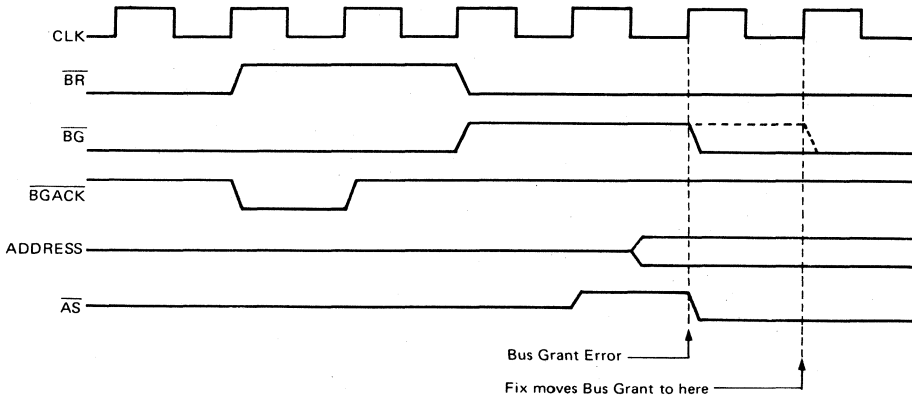

Figure 58 Bus Arbitration Timing Diagram Error Sequence
(1) Bus Arbitration Logic
The problem occurs when bus grant acknowledge (BGACK) is asserted for only one clock cycle while bus request (BR) is negated. If  $\overline{BR}$  is asserted one clock cycle after BGACK is negated, the processor asserts bus grant (BG) and address strobe (AS) at the same time (Refer to Figure 58). This, in